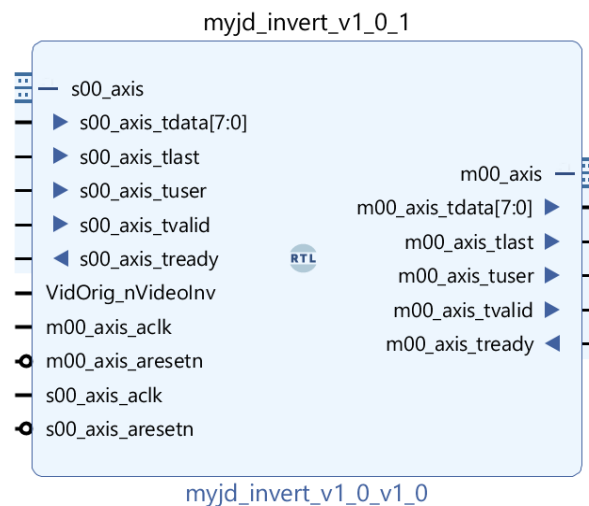

Figure 12. Overview of inversion component
- 1) To manually generate an IP including an AXI4-stream interface. This IP aims to be include between the “Video In to AXI-stream” and “AXI-stream to Video Out” controllers. The component deals with the control signals to receive the data stream from the first controller, invert the grey-level and the control of the signals to transfer the result data stream to the second controller for the display. Described a VHDL component that includes the ports as depicted in figure 12. The module should include a slave AXI4-stream interface (s00_axis) and a master a master AXI4-stream interface (m00_axis). Please refer to the furnished documentations (ug761 and pg085) if necessary. Moreover, your design should include an input VidOrig_nVideoInv that enable the pixel inversion to be selected (or not). The signal should be connected to the external switch SW1 available on the evaluation board. After the IP validation, include this component into the video chain which has been validated in Part 2. Do to so, right click on the vhdI file, and select the “Add Module to Block Design”. Connected the IP and generate the new architecture and then validate.